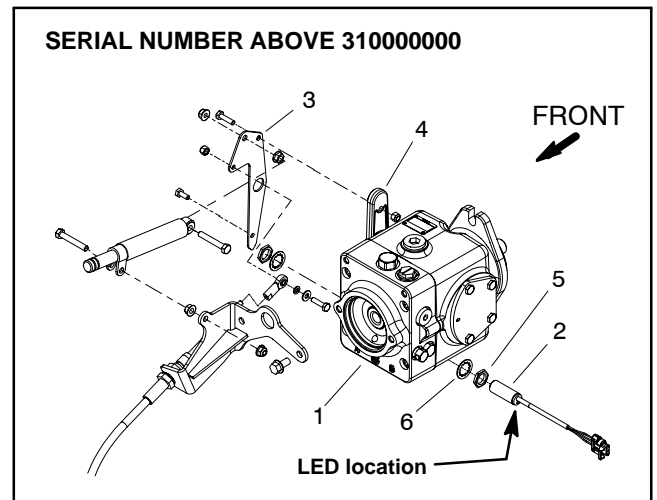

Figure 32
4. On machines with serial numbers above 310000000 (Fig. 32), test neutral switch as follows: